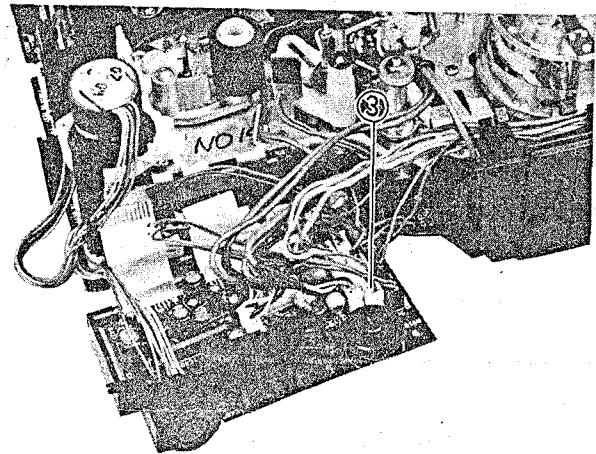

Fig. 2-67 Reel Sensor Removal
Reel Sensor Removal (Figs. 2-67, 2-68)
3. Disconnect connector CN119. (See Fig. 2-67)